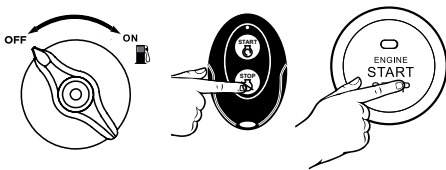

Figure 13: Stopping Inverter
1. Remove the engine maintenance panel (see Figure 13 on page 20)
3. Move the Fuel Control Switch to the **OFF** position ( this may take several seconds as gas is purged from the carburetor), Hold down “**STOP**” on remote start key fob, or press and hold the push button start for 3-4 seconds (see Figure 13).